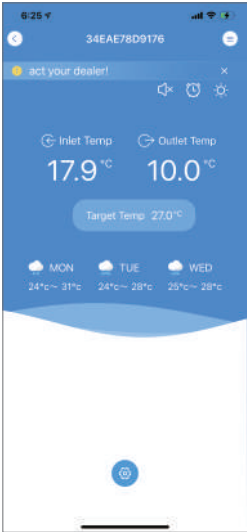

Fig.20 Device Main interface
- 10. Click the device directly jump to device main interface(Fig. 20).
- 11. Click the device directly jump to device main interface(Fig. 20).